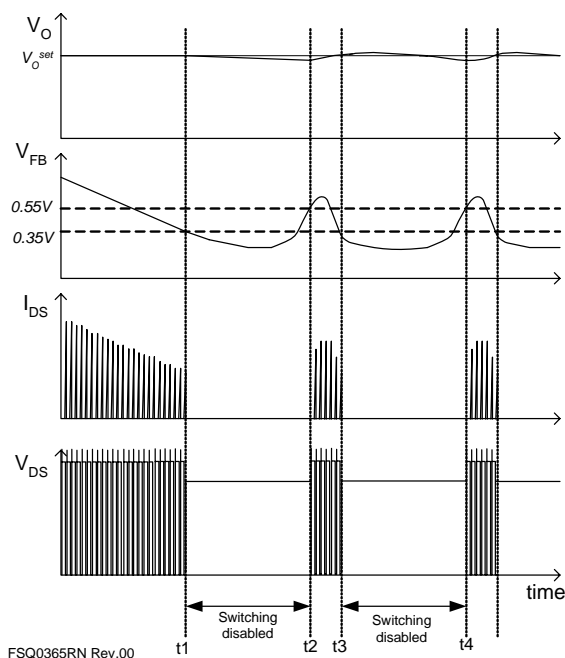

Figure 26. Waveforms of Burst Operation
6. Burst Operation: To minimize power dissipation in standby mode, the FPS enters burst-mode operation. As the load decreases, the feedback voltage decreases. As shown in Figure 26, the device automatically enters burst-mode when the feedback voltage drops below V_{BURL} (350mV). At this point, switching stops and the output voltages start to drop at a rate dependent on standby current load. This causes the feedback voltage to rise. Once it passes V_{BURH} (550mV), switching resumes. The feedback voltage then falls and the process repeats. Burst-mode operation alternately enables and disables switching of the power SenseFET, thereby reducing switching loss in standby mode.